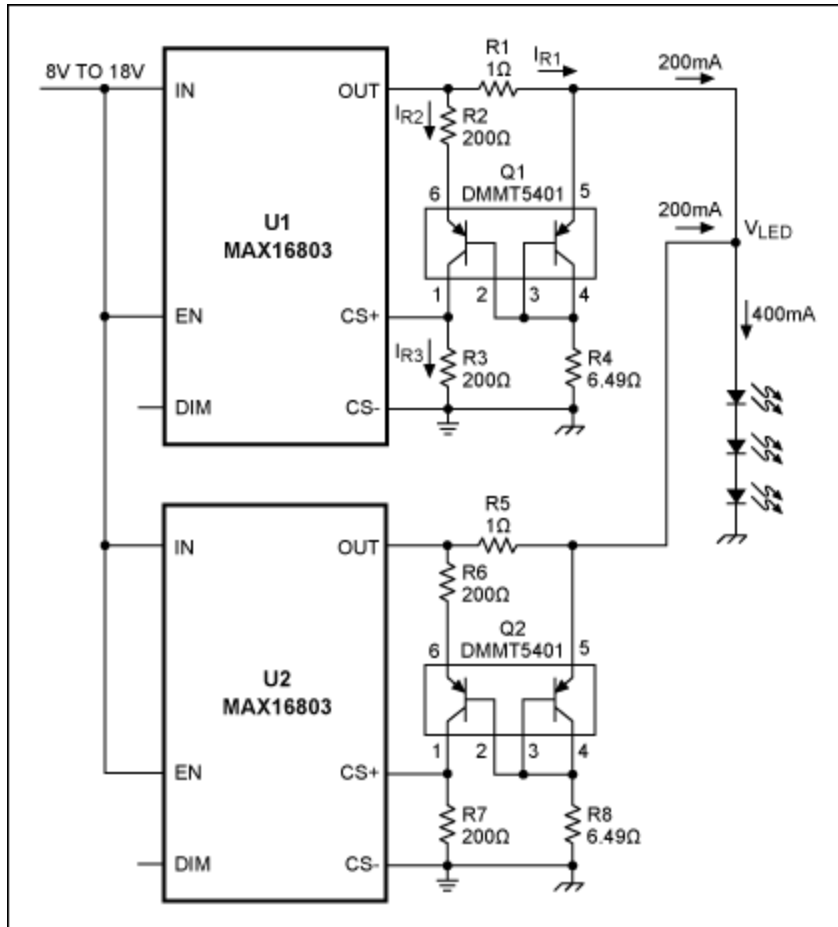

Figure 1. Matched transistors provide a current-sense level shifter for these LED drivers.
Suppose we want to drive an LED string with 400mA (**Figure 1**). Drivers U1 and U2 (MAX16803) are good for automotive use because they have a high input-voltage range, excellent thermal characteristics, and the automotive temperature range. Their maximum output current, however, is 350mA. Also, with maximum input voltages of 16V, each IC would dissipate 3.6W—far too much for one package to handle. One solution is to use two drivers, with each handling half of the current and heat. For the drivers to share current equally, their current-sense resistors must be on the high (anode) side of the LEDs. That arrangement introduces another problem: forward voltage for the three LEDs in series reaches almost 8V, but the maximum rating for the current-sense (CS) pins is only 6V.